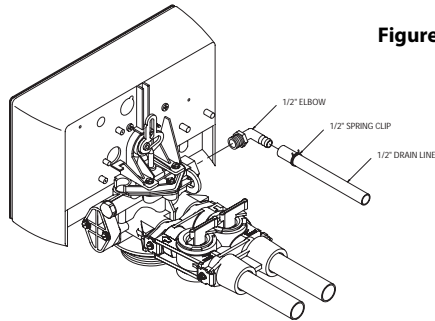

Figure 5
- Connect the 1/2 inch ID drain line to the drain outlet on back of the valve, opposite the inlet connection (see figure 5). A fitting is required to connect the female pipe thread to the drain line.